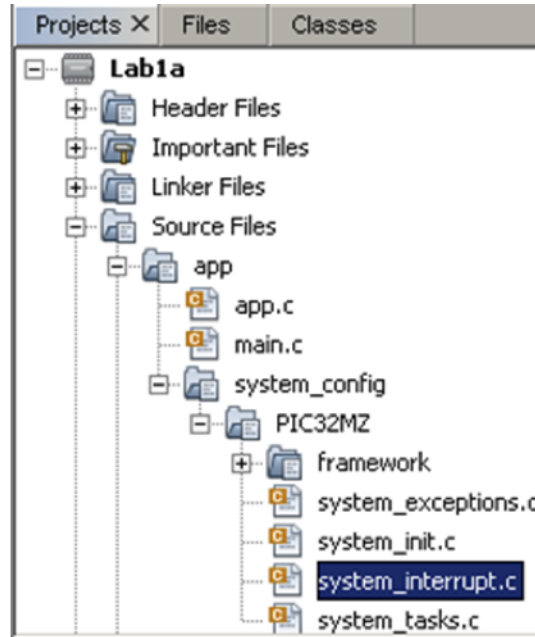

Figure 18: File tree to locate system_interrupt.c
- Then, it is necessary to handle the interrupt generated from the Timer each time it ticks. In order to do so, you can use the source file **system_interrupt.c**, as shown in Figure 18.